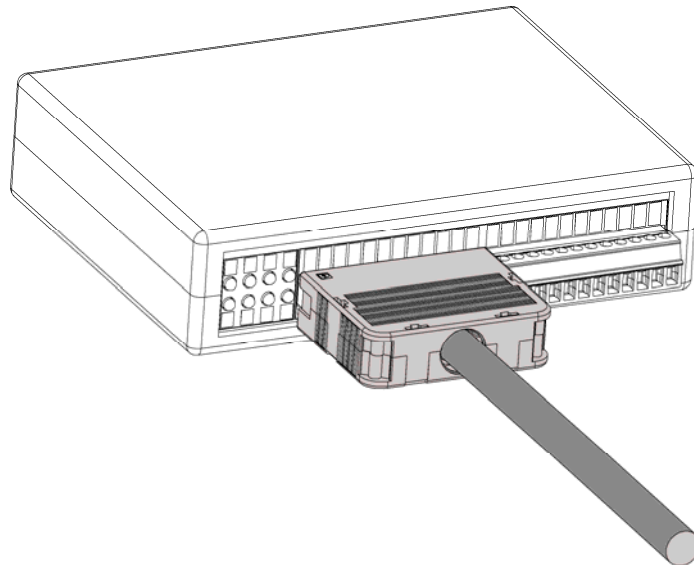
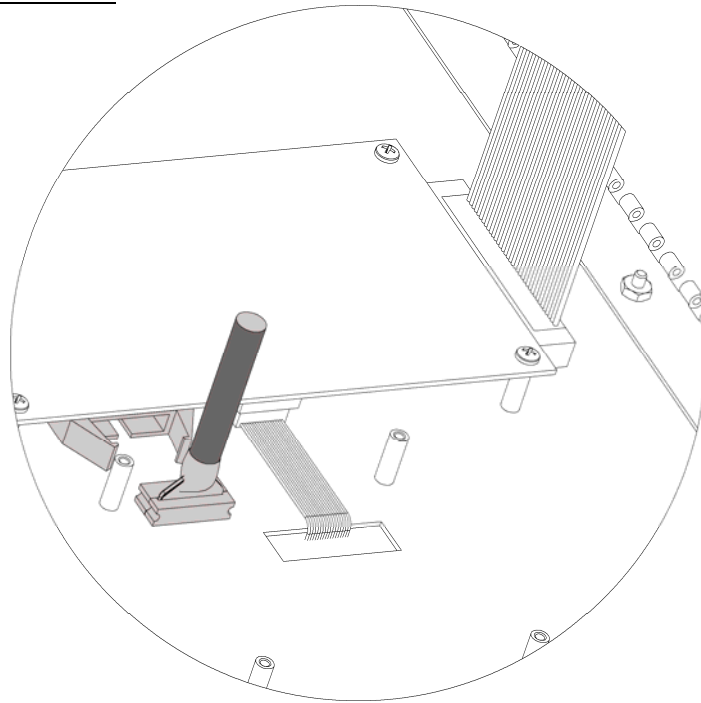

Figure 2 An illustration showing how to connect communication cable to the DNP3 interface module.
Figure 3 An illustration showing how to connect the DNP3 communication cable to the ARE-M control board.
The DNP3 communications module communicates with a DNP3 master through a 10Mbit Local Area Network (LAN) connection. The DNP3 communications module communicates with and is powered from the ARE-M display board through the supplied communication cable. The communication cable length comes in a standard length of 5 feet. The Ethernet cable lengths with option numbers are listed in Table 1. Should you need a different length communication or Ethernet cable, these are available from C&D. The connection between the DNP3 communications cable and the DNP3 communication module is shown in Figure 2. The connection between the communications cable and the ARE-M display board is shown in Figure 3. The communication cable connectors are keyed and not interchangeable to aid in correct installation.
- Plug the communications cable into the DNP3 communication module as illustrated in Figure 2.
- Connect the communications cable to the ARE-M control board as illustrated in Figure 3.